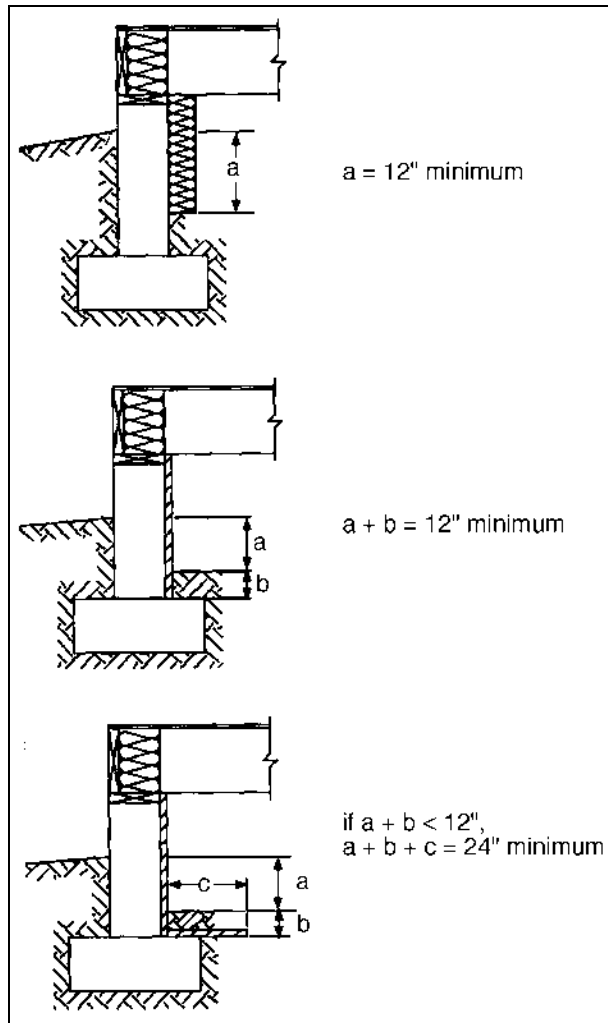

Figure 3. Crawl Space Wall Insulation Depth Requirement
**Crawl Space Wall R-Value** The crawl space wall R-value requirements are for walls of unventilated crawl spaces (i.e., not directly vented to the outside). The crawl space wall insulation must extend from the top of the wall to the inside finished grade. If the inside finished grade is less than 12 inches (305 mm) below the outside finished grade or the vertical wall insulation stops less than 12 inches below the outside grade, the insulation must instead extend vertically and horizontally a minimum of 24 linear inches (601 mm) from the outside grade level. Figure 3 illustrates the crawl space wall insulation depth requirements.